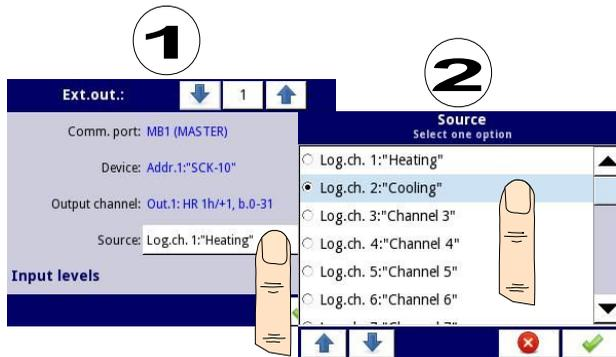

Fig. 7.98. Sample selection of **Source** for External output
- **Source** - this parameter allows to choose a source for an external output from the logical channel list (see Fig. 7.98),